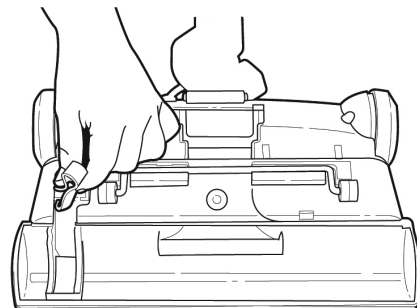

Figure 9
5. Slip the new cogged belt over the gear on the motor shaft (as shown in Figure 9).